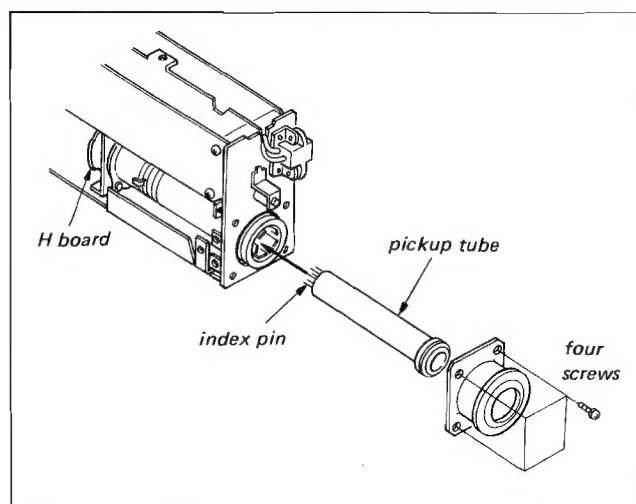

Fig. 4-1. Pickup tube replacement
2. Remove the four screws holding the lens mount and remove the mount, as shown in Fig. 4-1.
6. Insert the pickup tube into the deflection coil so that the index pins of the tube is positioned in the direction as shown in Fig. 4-1 and plug the tube into the socket securely.